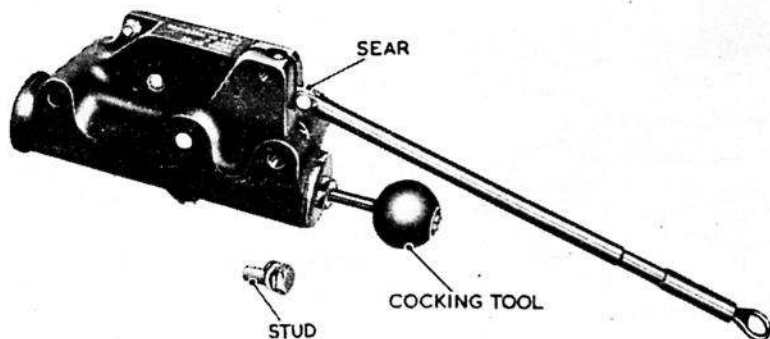

Fig. 9. Cocking drogue gun
- (2) Remove the stud at the bottom of the casing (fig. 9).
- (3) Insert the cocking tool into the stud hole, screw to the right and then pull downwards until the gear train stops revolving.
- (4) Insert the quick-release pin in the safety lock.